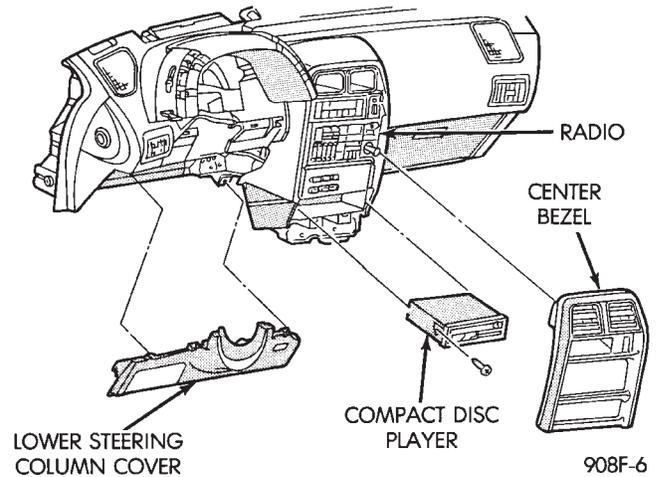

Fig. 38 Compact Disc Player
- (1) Remove center instrument panel bezel by pulling toward the rear of the car.
- (2) Remove two screws attaching disc player to console (Fig. 38).
- (3) Pull disc player out of console and disconnect interface cable.
- (4) To install compact disc player, above the removal procedures.